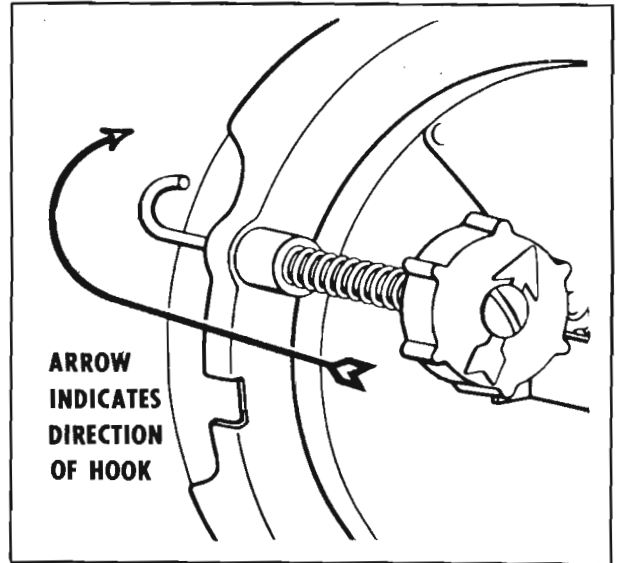

Figure 10-58—Fastening Aimer to Retainer Ring
4. Fasten aimer to retaining ring with spring-loaded hooks. The cross arm should be approximately horizontal. See Figure 10-58.